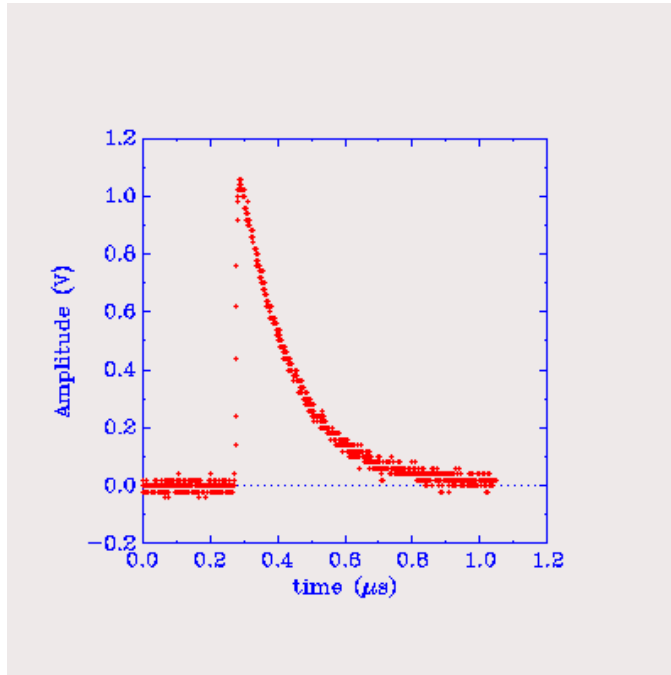

Figure A4.1 A typical pulser signal, with exponential rise time of 3 ns and exponential decay time of 100 ns.
- 1) One end (henceforth referred to as the ‘input’ end, and the opposite end is referred to as the ‘output’ end) of one stripline is injected with a pulse generated from a BNC Model BL-2, set to ‘tail pulse’ mode, with exponential rise and decay times of 3 ns and 100 ns respectively, and with an amplitude of approximately +1V. A plot of a typical input pulse is shown in figure A4.1.